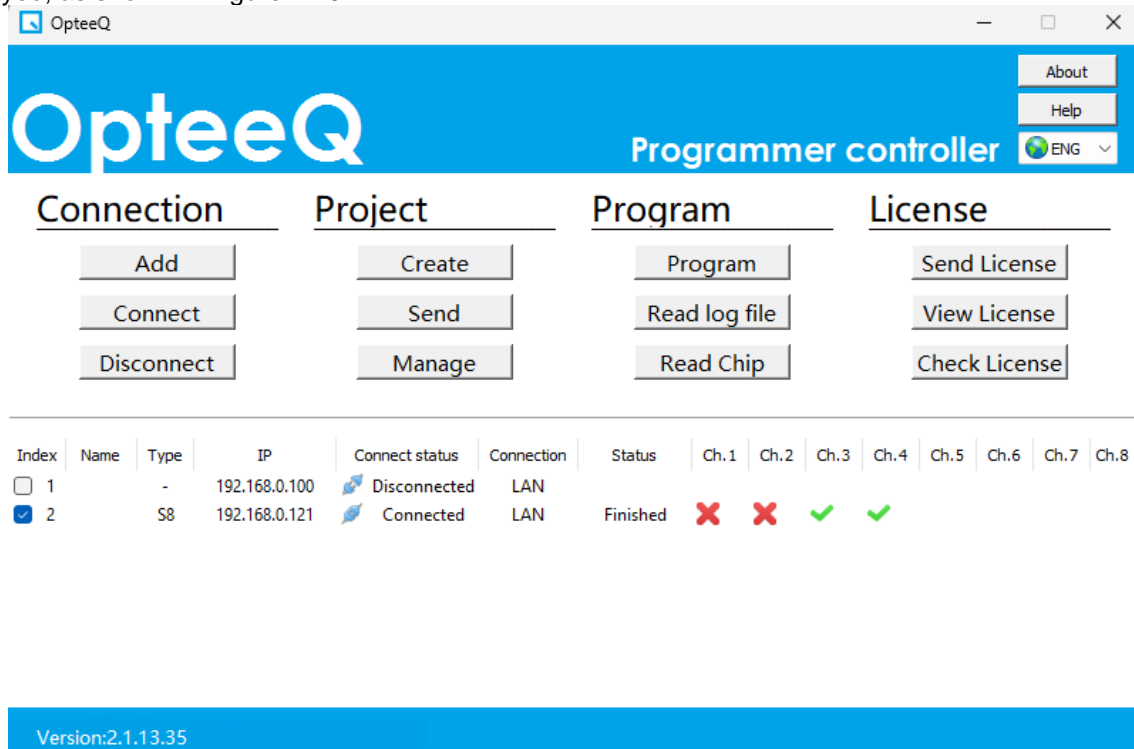

Figure 4.20 Programming Success Interface
6) When the programmer starts programming, the "BUSY/programming" LED indicator in the programmer turns red. When programming is completed, the programming result is displayed in the software interface. When Channel 1 and Channel 2 are selected for programming, the programming success interface will be displayed, as shown in Figure 4.20.